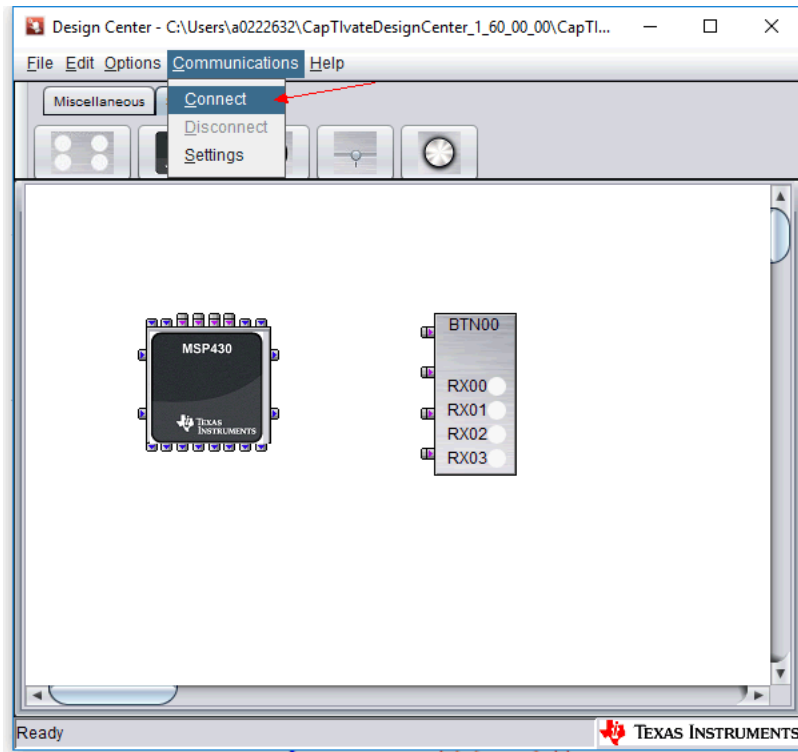

Figure 6. CapTivate Design Center
3. Click Communications→Connect (see Figure 6).